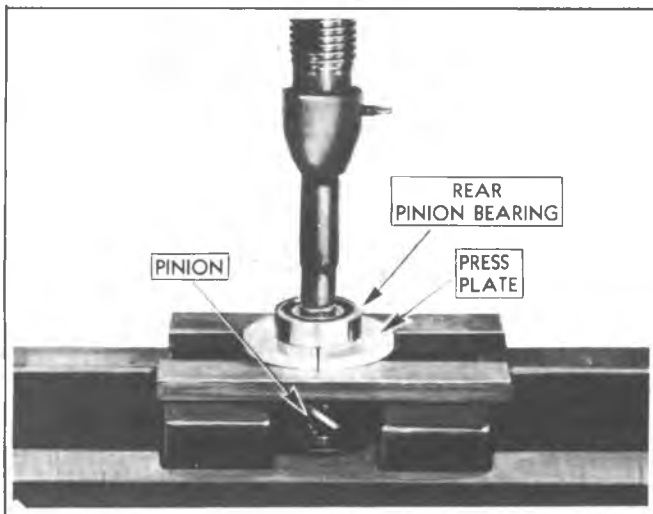

Fig. 2G—Pinion Rear Bearing Removal
5. Remove pinion rear bearing snap ring and press bearing from pinion, using Tool J-1453, as shown in figure 2G.